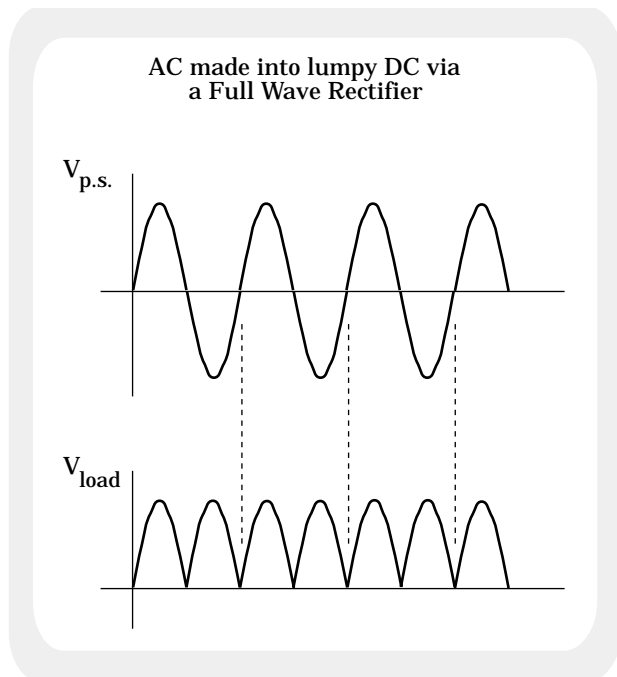

FIGURE 21.7
d.) A graphical representation of both the voltage across the power supply as a function of time and the voltage across the load resistor as a function of time is shown in Figure 21.7. Notice that the voltage across the resistor is still lumpy-DC, but we are no longer losing half our power in the process.